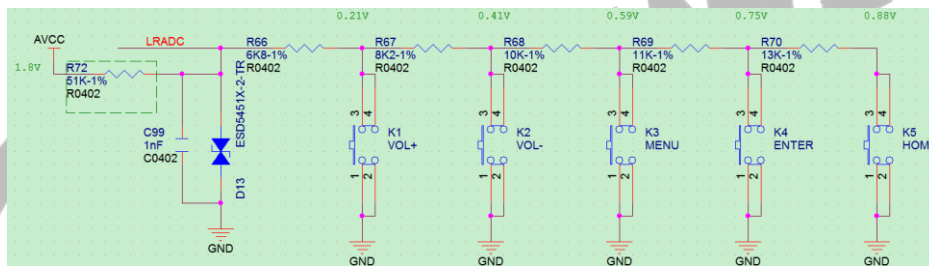

Figure 2-47 Key Circuit Design
- Select the number of LRADC keys and increase or decrease them according to the requirement of the product. The voltage acquisition range of LRADC is 0 to 1.266 V. In the design, please ensure that the voltage interval between each key value is greater than 0.2 V. The precision of the division-voltage resistor must be 1%. As shown in Figure 2-47.